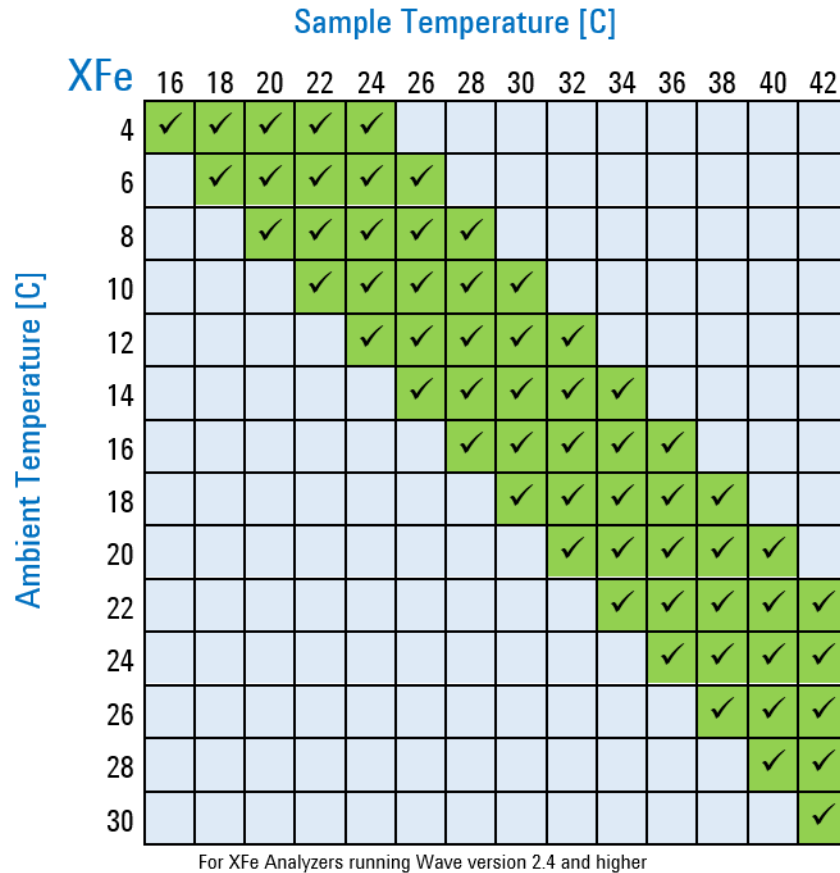
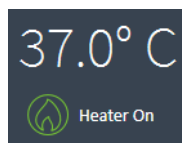
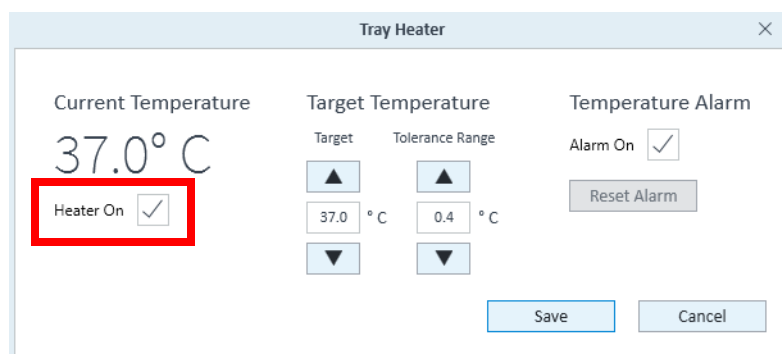

Figure 35 Temperature chart
Figure 36 Temperature widget
Figure 37 Edit temperature settings window
Seahorse XFe Analyzers have been validated to deliver desired target temperatures in the range of 16-42 °C provided the ambient room temperature is 12-20 °C below the target temperature, and in the validated operational room temperature range of 4-30 °C. To understand the relationship between the sample temperature and ambient temperature, see Figure 35 on page 38 for the temperature chart.
- If required to set up the XFe Analyzer in cold room, avoid direct fan sources. (See Figure 35 on page 38.)
To adjust the Target Temperature (set point) using the up/down arrows, click on the **Temperature Widget** to display the Tray Temperature window. (See Figure 36 and Figure 37 on page 39.) Ensure your ambient conditions support the desired target temperature (12-20 °C above ambient). Refer to the temperature chart shown in Figure 35.